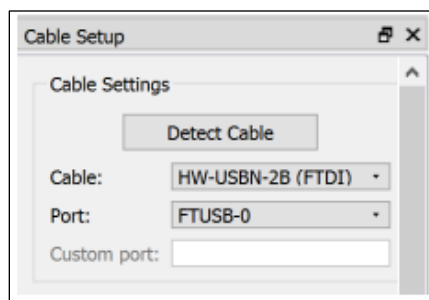

Figure 3.10. Port Selecting
- If the device is not detected on port FTUSB-0, click on **Detect Cable** and select the port FTUSB-1 (Figure 3.10).